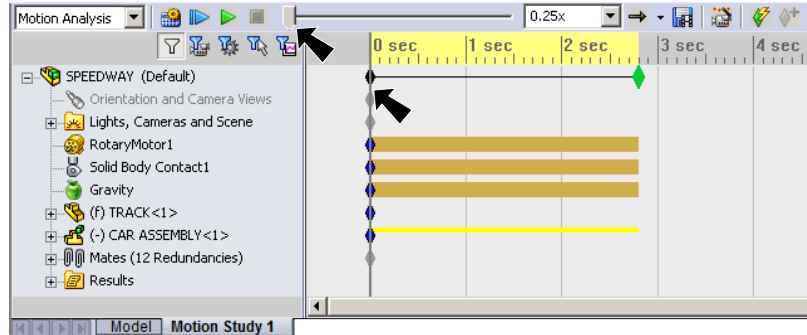

Fig. 1
Step 1. **Rewind Motion Study to 0 seconds.** To rewind, either **drag the Play Head** back to the beginning in the Motion Manager toolbar or **drag the Time Bar**, the gray vertical line back to 0 in the Timeline, **Fig. 1**.